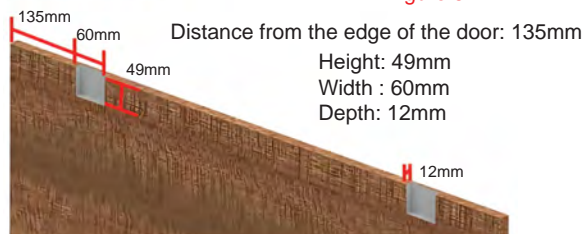

Figure 6
2. Cut out the slots required using the dimensions guided in Figure 6.